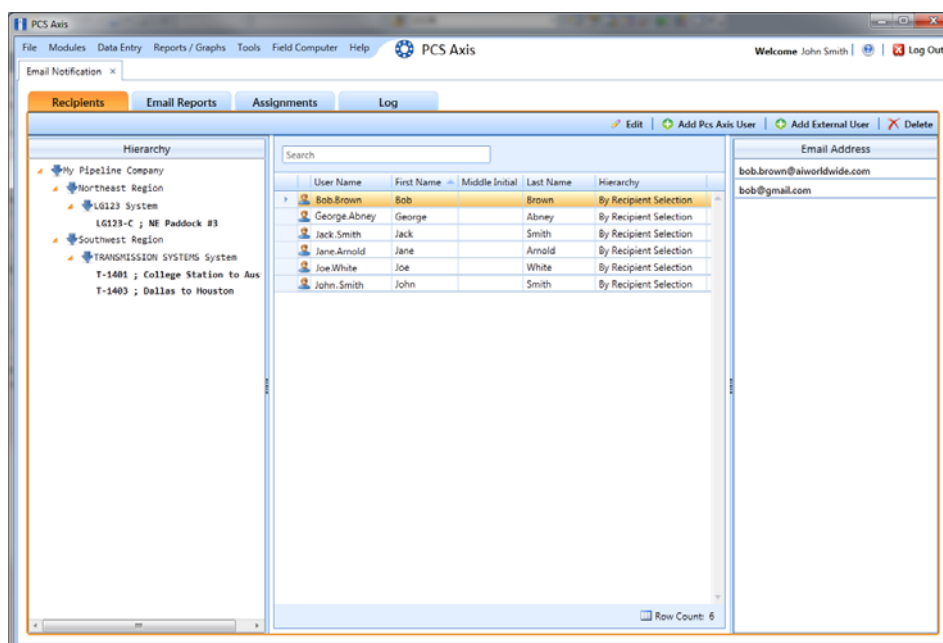

Figure 11-1. Recipients / Add PCS Axis User
- 3 Select a user name in the center panel (Figure 11-1).